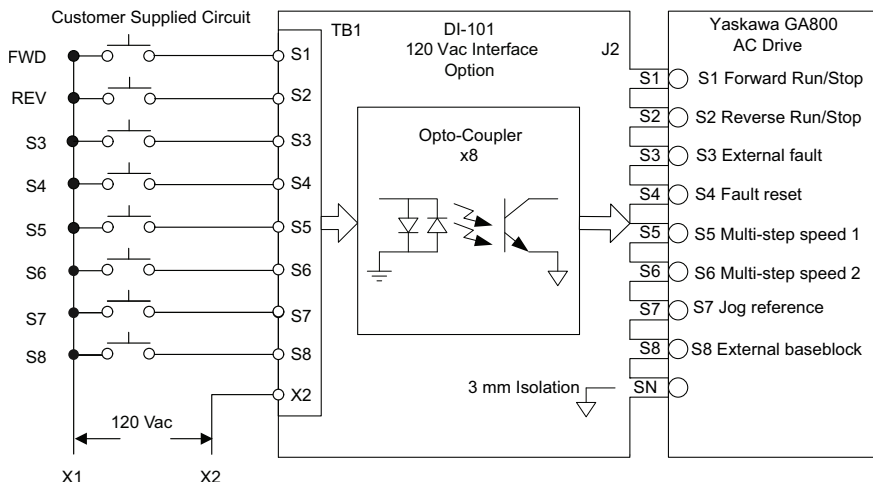

Figure 6.16 Wiring Diagram Example
8. Connect the customer wiring to the DI-101 option terminal block. Refer to Figure 6.16 for a wiring diagram example showing customer interface circuitry. Refer to Wire Gauges, Tightening Torques, and Crimp Terminals on page 26 to confirm that the proper tightening torque is applied to each terminal. Take particular precaution to ensure each wire is properly connected and wire insulation is not accidentally pinched into electrical terminals.